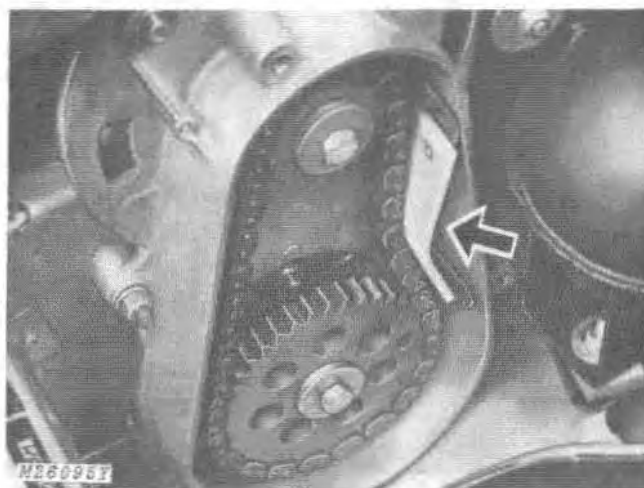

Fig. 5-Installing Chain Tensioner
4. Install chain tensioner, Fig. 5.